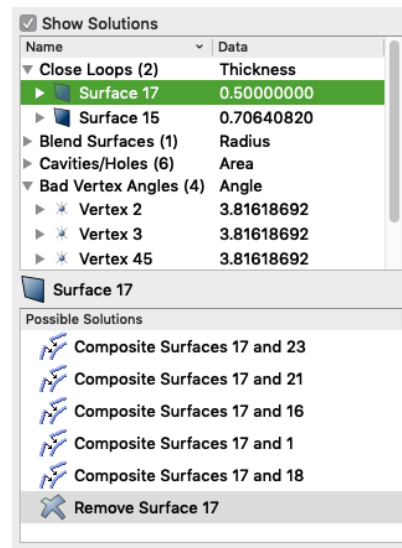

Figure 4. Entity-specific solutions displayed in geometry power tool.
- **Show Solutions:** Selecting the **Show Solutions** check box at the top of the results window will display an additional window, (See Figure 4.) populated with relevant operations for the currently selected entity. Selecting a solution will display a preview of the operation in the graphics window. Double clicking the solution will execute the solution. A right click on the solution will show a context menu revealing the following options: